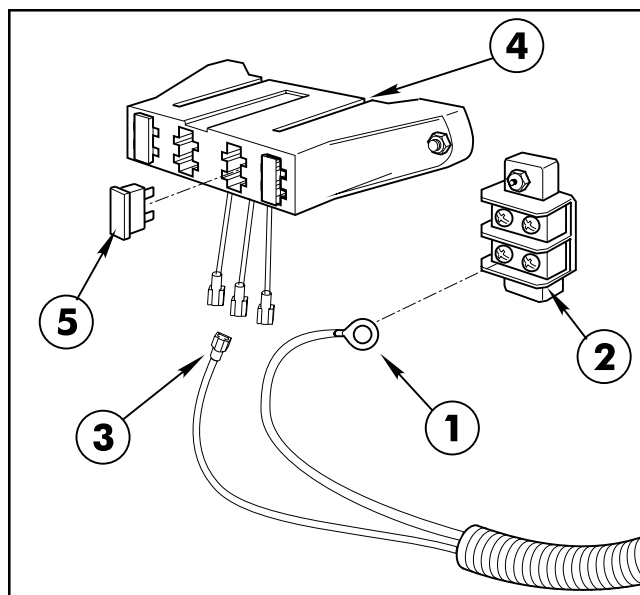

Fig. 10
23. Connect the ring terminal on the black wire of Wiring Harness to the Ground Terminal Block. (Fig. 10)
24. Connect the push-on terminal on the red wire of Wiring Harness to the male terminal on the red wire coming from the Fuse Block. Insert the 20 amp Fuse into the Fuse Block. (Fig. 10)
25. Attach cover to the Tank/Compressor Assembly using the four (4) 1/4" x 1" hex hd. cap screws and flatwashers removed earlier.